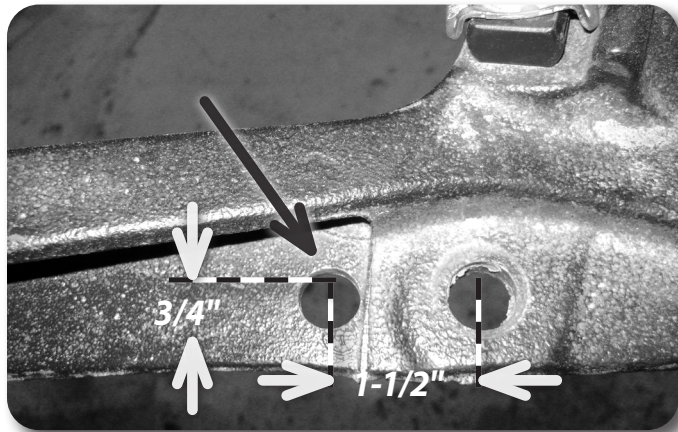

Figure 29
56. Locate the original sway bar link mounting hole on the lower control arm. Measure inward from the center on the hole 1-1/2" (toward the frame mount) and mark. Measure in from the back edge of the control near the first mark 3/4" and mark. Where the two marks cross drill a 5/8" hole Figure 29.